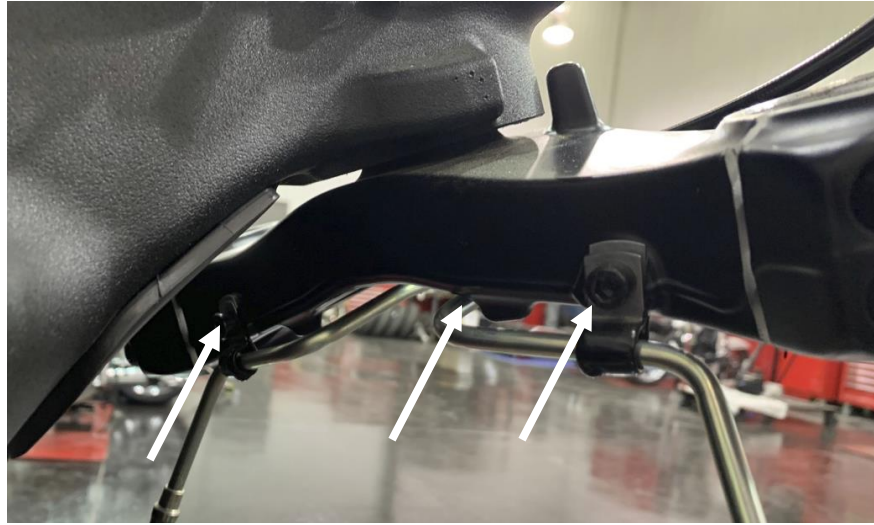

Figure 14: Remove the brake line clamp bolts.
17. Remove the three brake line clamp bolts from the lower triple tree, and allow the brake lines to hang free. See Figure 14.